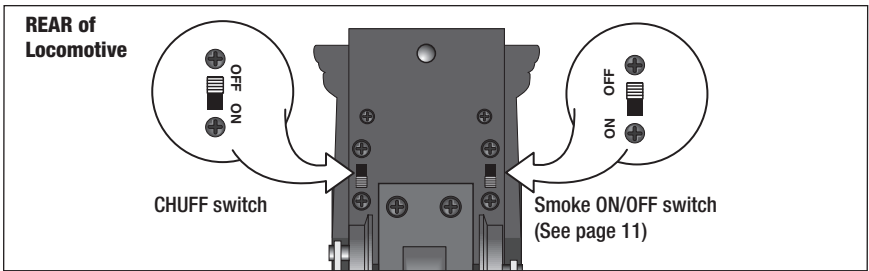

Figure 8. Switch locations
**Y**our locomotive is equipped with a smoke generator that produces safe, clean white smoke during operation if the smoke unit switch is in the ON position. Refer to Figure 8 on page 15 for the location of the switch.
To silence the background steam sounds, slide the CHUFF switch to the OFF position under the frame. See Figure 8. Turn off track power for about two seconds, and then the background sound will be silenced when the track power is restored. The whistle, announcement, and bell sounds can still be triggered at any time using the remote. To restore the background sounds, simply slide the CHUFF switch to the ON position and then turn off track power for two or more seconds.